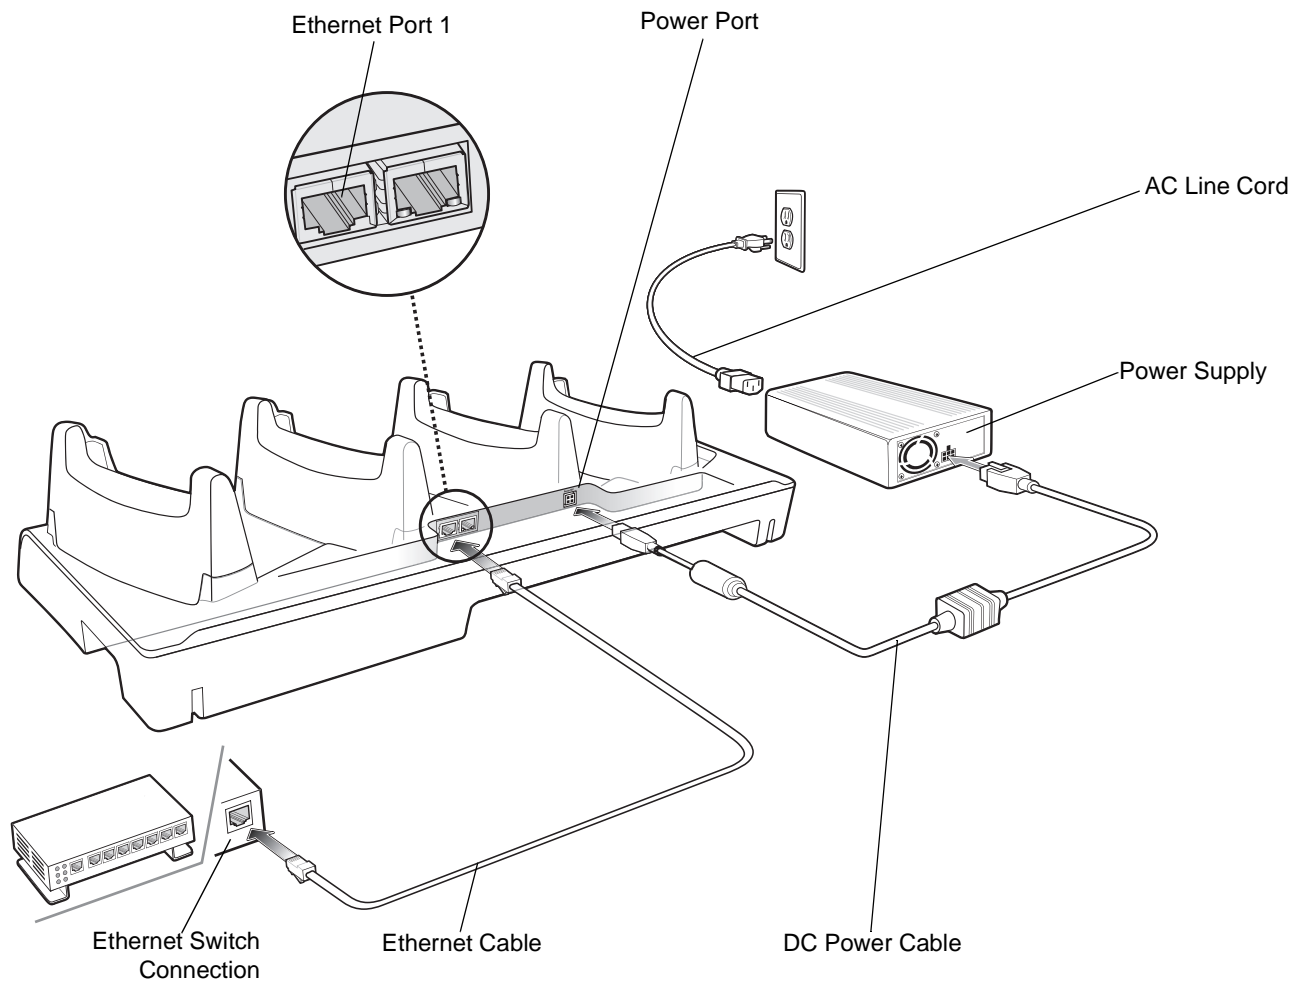

Figure 2-5 Four Slot Ethernet Cradle Setup
1. Connect the first Ethernet cradle to power and to the Ethernet switch as shown on Figure 2-5 on page 2-7.